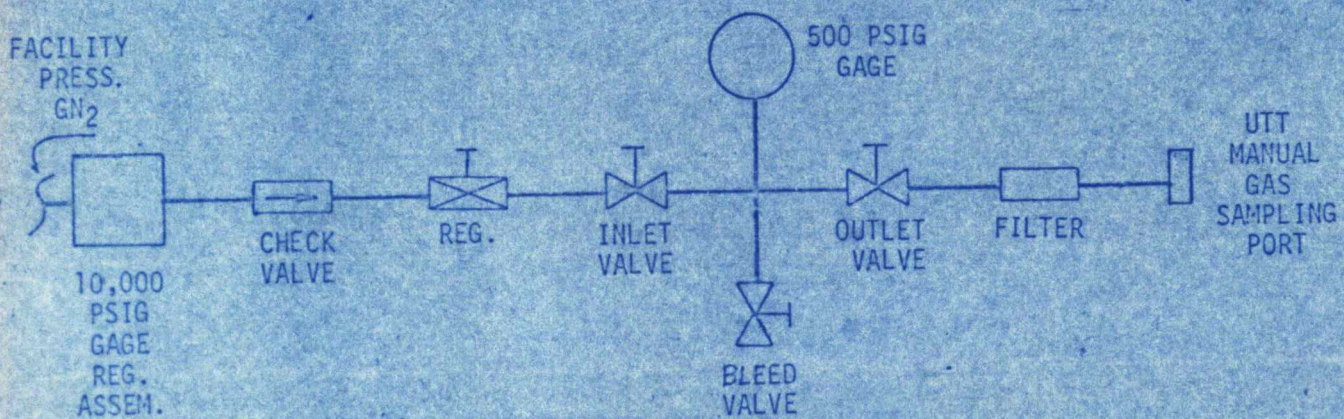

FIGURE 2. PRESSURE SETUP (SAT V)
- (F) CLOSE ISOLATION VALVE, OPEN BLEED AND TURN OFF EXTERNAL VACUUM PUMP.
- (G) REMOVE THE EXTERNAL VACUUM PUMP SETUP AND RECAP THE EMERGENCY VACUUM PUMP PORT.
- (H) CONNECT ADDITIONAL EQUIPMENT AS SHOWN IN FIGURE 2.
- (I) OPEN VH-74 AND CLOSE VH-68.
- (J) OPERATE THE TEST SETUP TO OBTAIN AN INDICATION OF 20 PSIA AT VG-10. THE STANDARD SHALL INDICATE WITHIN 19 TO 21 PSIA.
(B) FIGURE 2